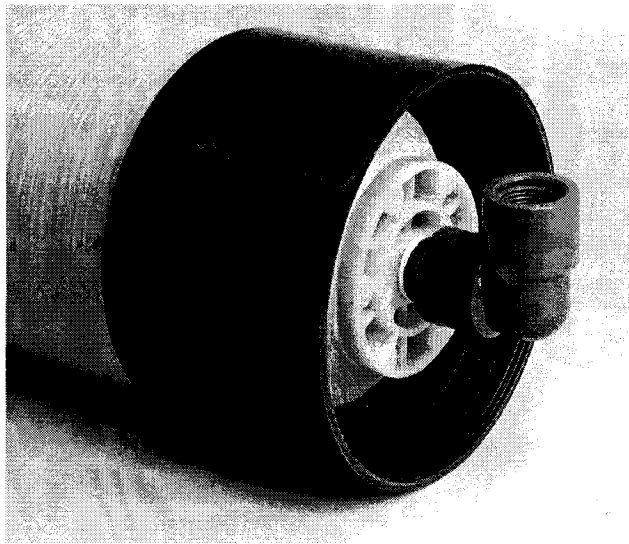

Fig. 7
2. Thread the 3/4" Close Nipple and the 90° ell into the bottom of the tank. Use thread tape and/or paste to insure a good seal. (Fig. 7)